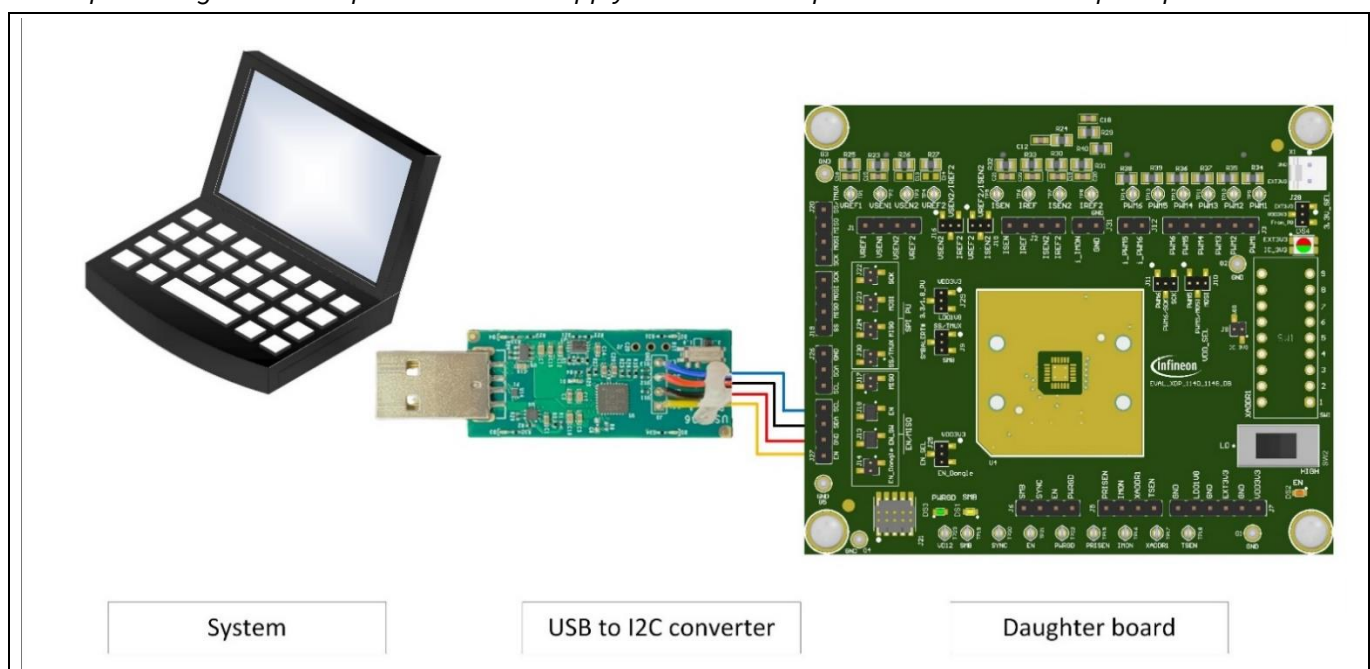

Figure 6 Hardware setup
Connect the USB007 and EVAL_XDPP1140_1148_DB as shown in the Figure 6.
2. In this Figure 6, USB007A is a non-isolated version of a dongle. With the isolated version (USB007B), there is no output voltage on the EN pin. You need to supply 3.3 V on the EN pin for the isolated side pull up.